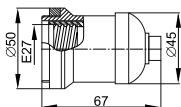

Figure 1 – Pal27-04-K28, Pal27-04-K01, Pal27-04-K01 E27
2.2 Overall dimensions of lamp sockets are shown in the figures 1–2.